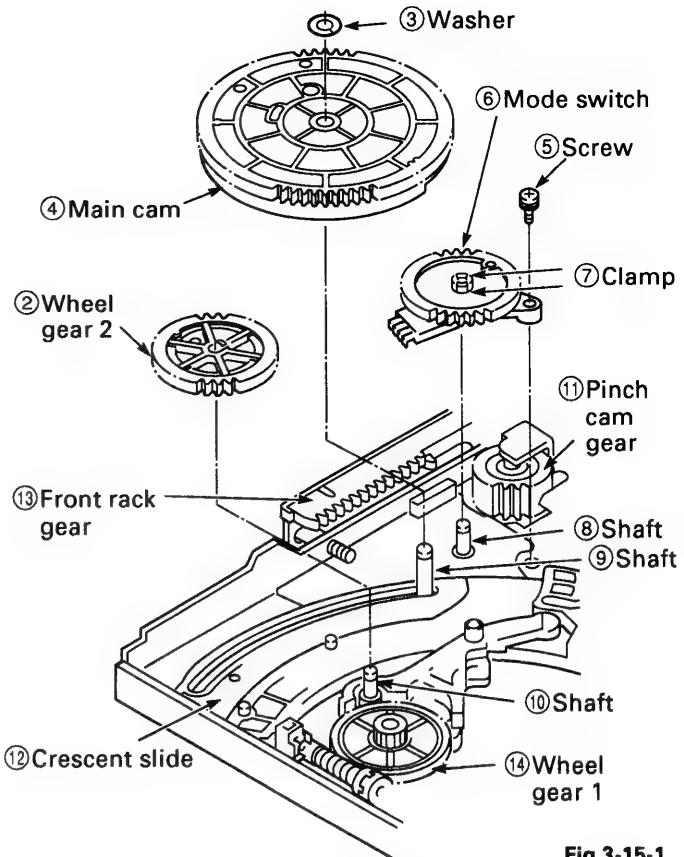

Fig.3-15-1
### 3-15. WHEEL GEAR 2, MAIN CAM AND MODE SWITCH (See Figs.3-15-1 and 3-15-2)
3. Beforehand, remove the soldering from the soldered part of the MC-1 PWB assembly, in order to prevent the mode switch ⑥ being warped. Solder the mode switch ⑥ after tightening the screw ⑤ (See Fig. 3-15-1).